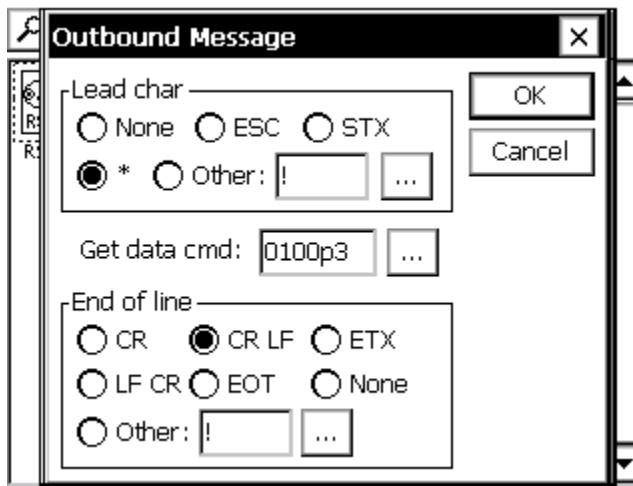

Figure 11: Outbound Message properties window
Figure 11 illustrates the properties window for the outbound message structure.
Select the properties appropriate for your sensor. Figure 11 illustrates settings typical for a ParoScientific DigiQuartz sensor. All DigiQuartz commands begin with an asterisk (*). All DigiQuartz commands end with a carriage return-line feed pair. The get data command contains the address of the target sensor (00), the address of the sending device (01), and the request for single reading command, p3.